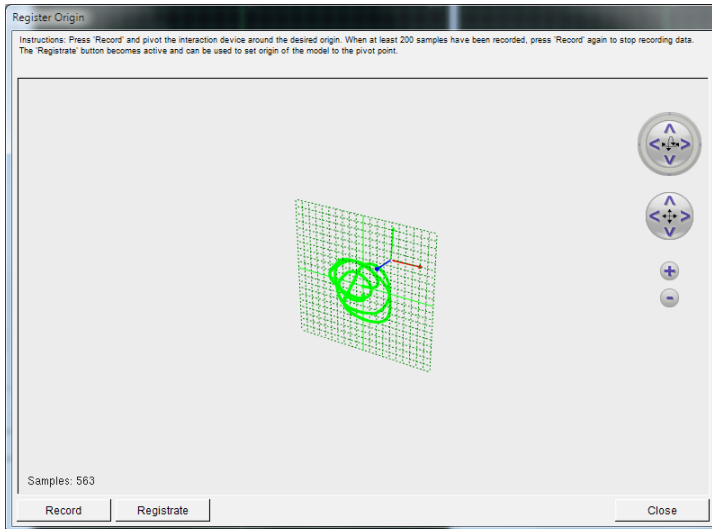

Figure 7.12: Register origin dialog
5. The “Registrate” button will become active (see Figure 7.12). Press this button to calculate a new origin.